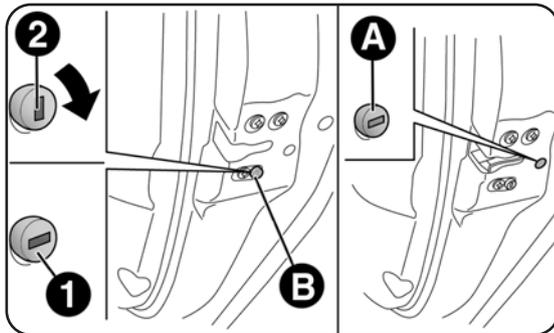
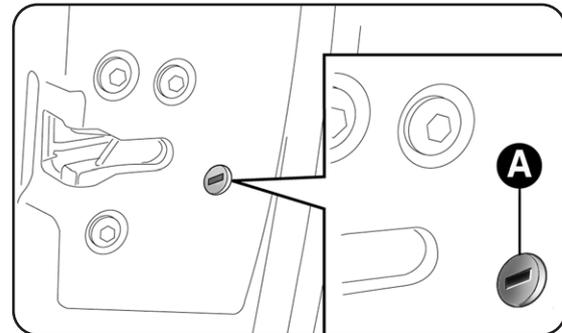

fig. 53
fig. 53a
CHILD LOCK SYSTEM B-fig. 53
- engage the metal insert of the starting key in position A - fig. 53 (rear doors) or A - fig. 53a (front passenger side door);
- turn the key counter-clockwise and then remove it from position A - fig. 53 or A - fig. 53a.